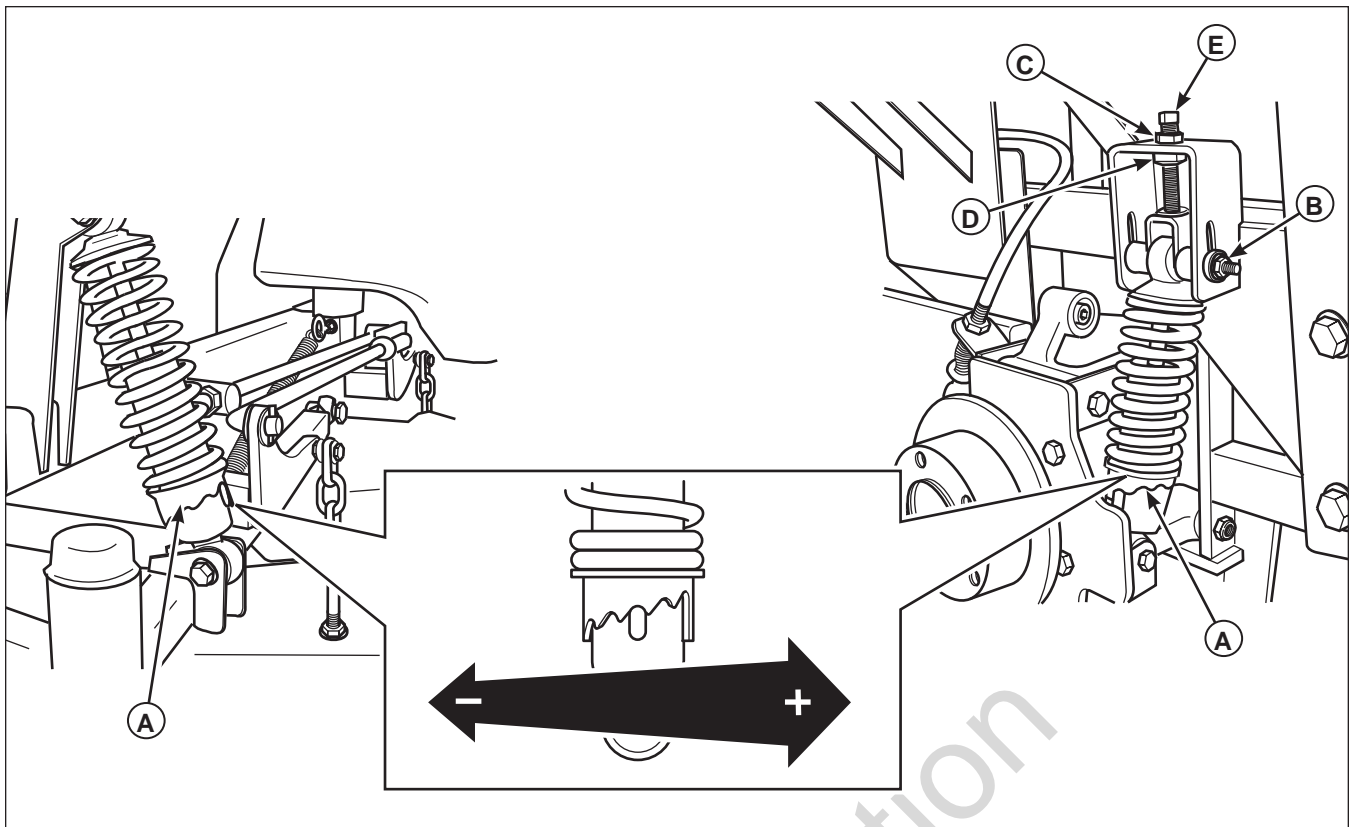

Figure 36. Suspension Adjustment
2. See Figure 36. Using the supplied spanner wrench (p/n 5022853), insert the tip of the wrench into the notch in the pre-load adjuster. While holding the wrench with both hands, turn CLOCKWISE to decrease the pre-load, turn COUNTER-CLOCKWISE to increase the pre-load. Make sure that for each pair of shocks that the left-hand and right-hand are set to the same amount of pre-load.